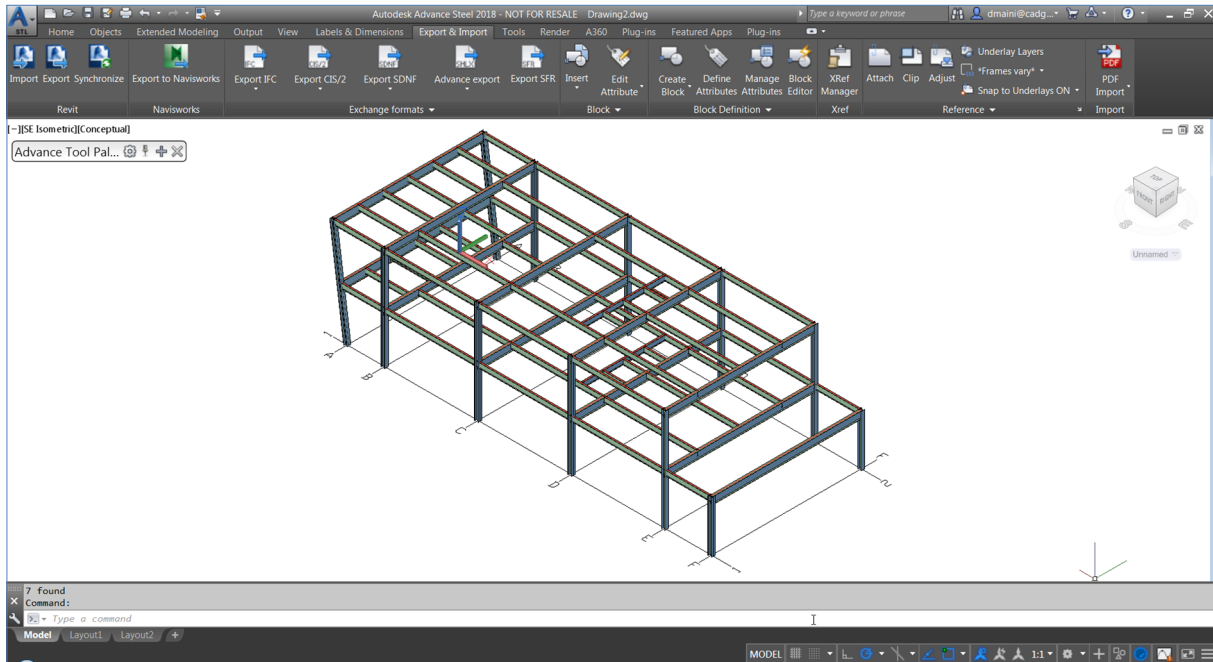

FIGURE 10: AUTODESK REVIT STRUCTURE MODEL OPENED IN ADVANCE STEEL
4. Once the section and material mapping is completed, the model will be opened in Advance Steel, as shown in Figure 10.